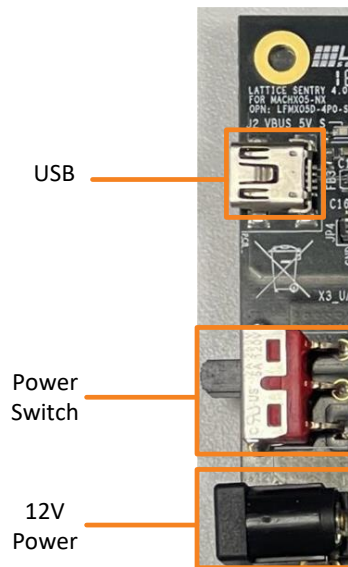

Figure 6.15. Power and Data Connections
2. Connect the 12 V power cable, USB cable, and slide the power switch to an upwards position, as shown in Figure 6.15.